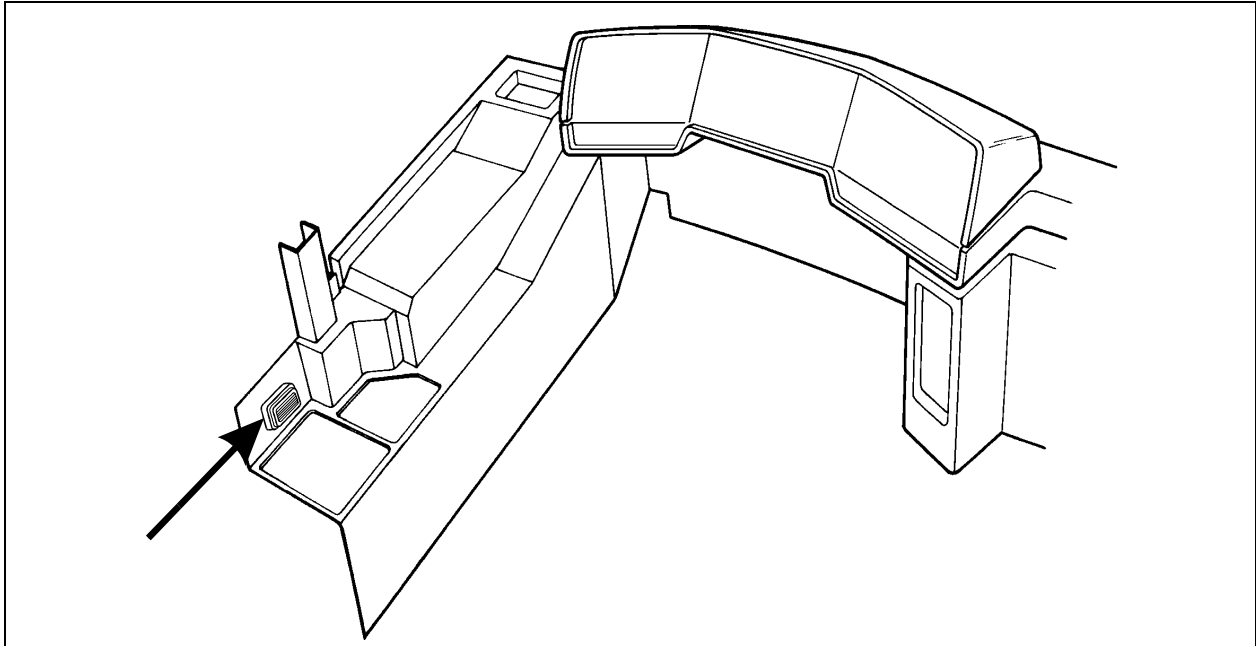

Figure 1: Typical location of the lamp, in the driver's section.
1. Locate the lamp (figure 1).